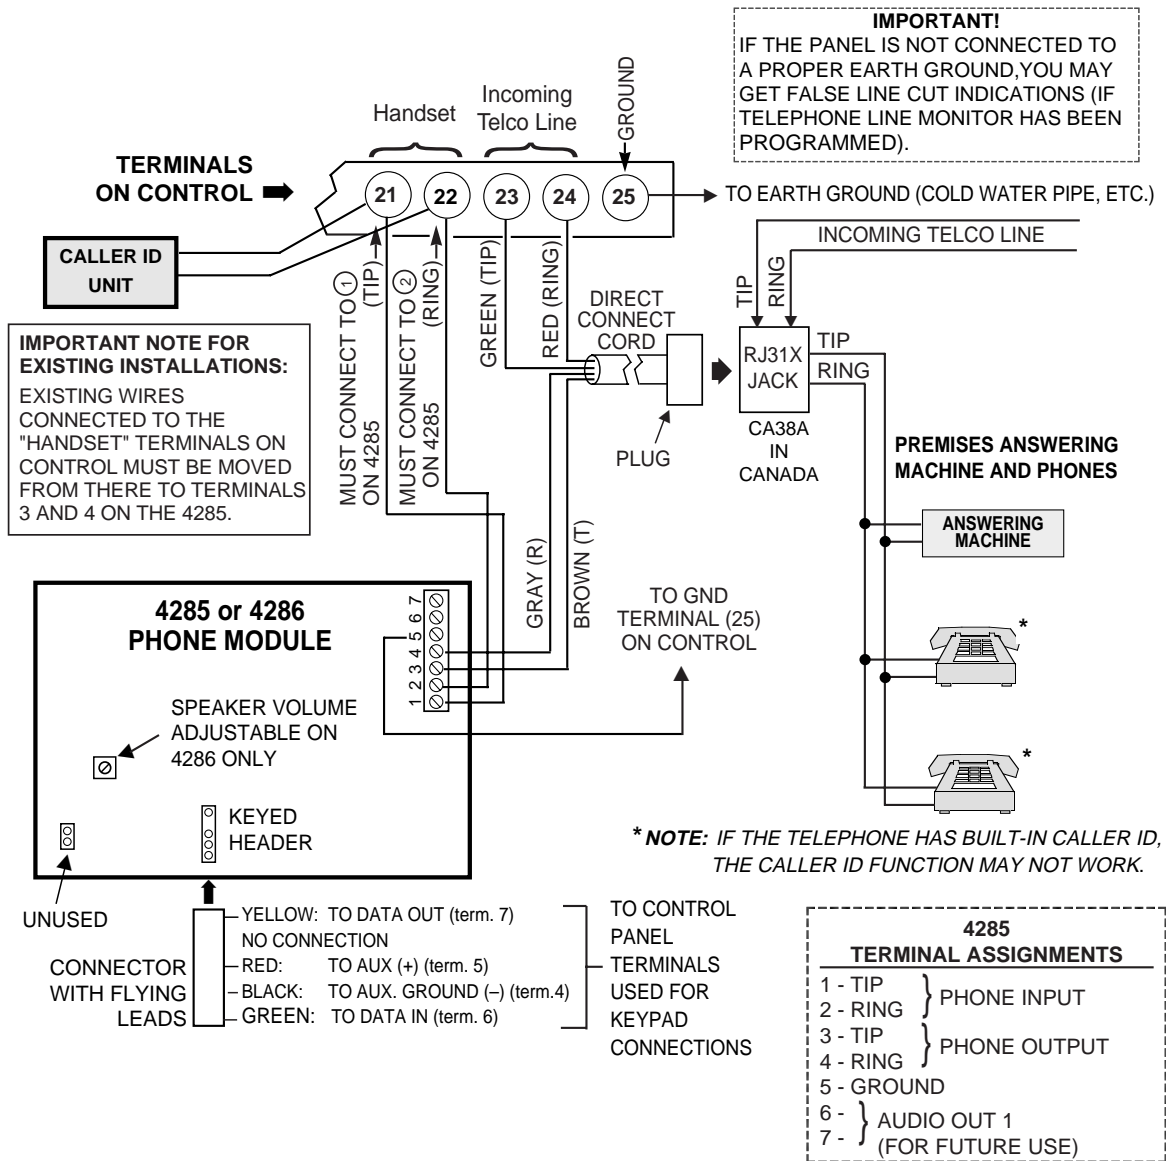

Figure 16. 4285 /4286 Phone Module Wiring Connections
1. Make 12V (+) and (-) and data in and data out connections from the Phone Module to the control, using the connector cable supplied with the Phone Module (see Figure 16).